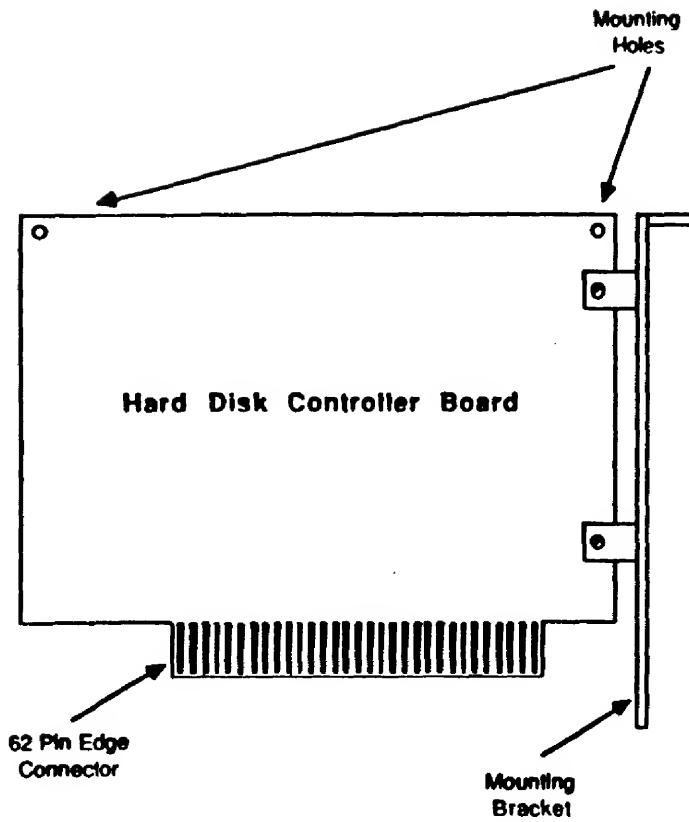
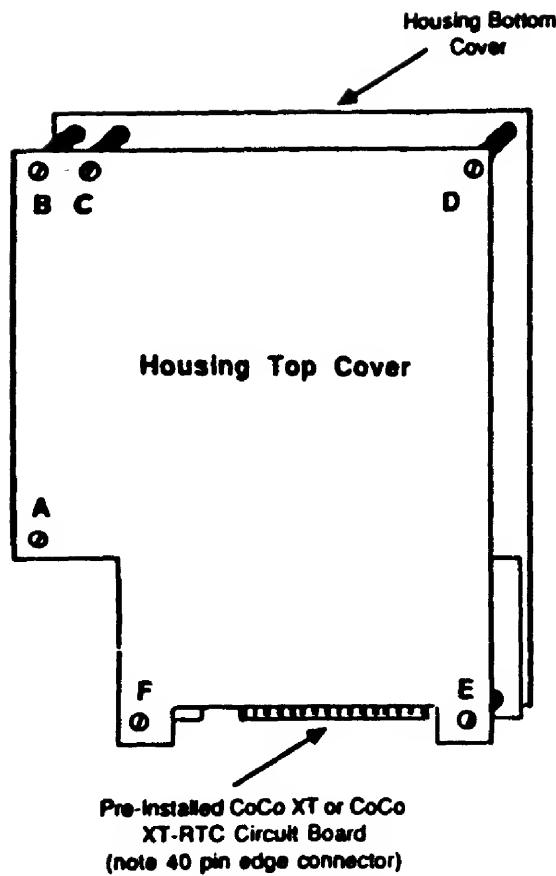

Figure 2.1 Typical Outline of Hard Disk Controller Board
Figure 2.2 Front View of CoCo XT- Housing
Figure 2.1 shows an outline drawing of a typical hard disk controller board. The board dimensions are different for each
- 1) Position the housing as shown in Figure 2.2. The 40 pin edge connector should be at bottom right.
- 2) Using the 1/16" allen wrench, remove the screws marked A, B, C, D, E, and F in Figure 2.2. Save these screws for use when replacing the top cover.
- 6) Release your grip on the CoCo XT board and the hard disk controller. The mounting holes (Figure 2.1) on the hard disk controller should align with the mounting posts which secure the spacers at positions C and D (Figure 2.2).